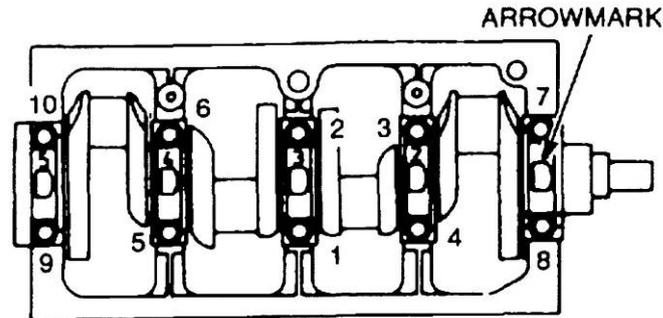

Figure 41 Crankshaft Bearing Bolt Tightening Sequence
- g. Install and torque the bolts to 225 to 245 N.m (166 to 181 lbf.ft) in the sequence shown (Figure 41), while tapping the bearing cap from side to side to centralize and seat the bearing correctly.